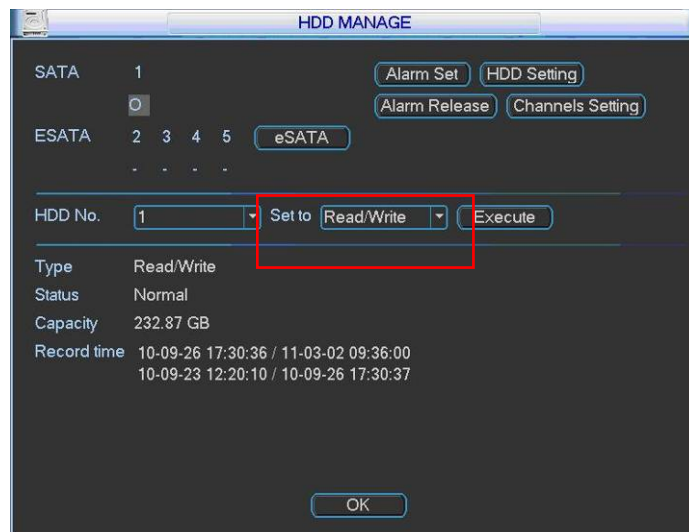

Figure 4-21
In the main menu, from Advanced to HDD management, you can set one or more disk(s) as redundant. You can select from the dropdown list. See Figure 4-21. System auto overwrites old files once hard disk is full.
- Set redundant disk(s) as read-only disk or read-write disk (Main menu->Advanced->HDD management). See Figure 4-21. System needs to reboot to get setup activated. Now you can search or playback file in redundant disk.